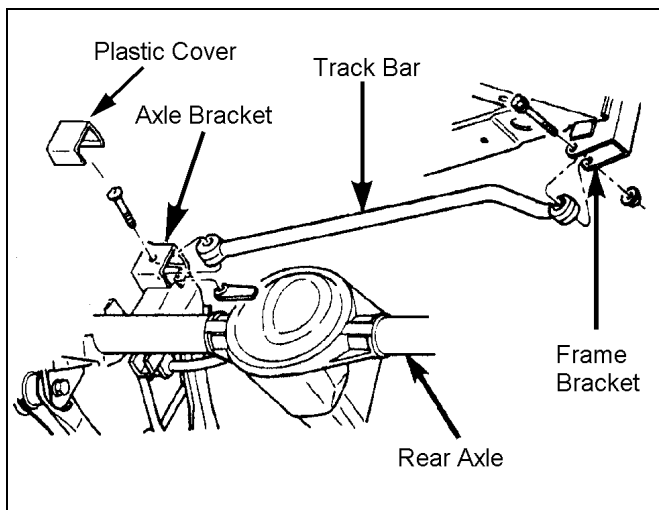

Figure 12
- 2) ☒ Disconnect the track bar from the frame bracket. See figure 12.
- 4) ☒ Separate the track bar from the axle bracket. Remove the track Bar. See Figure 12.